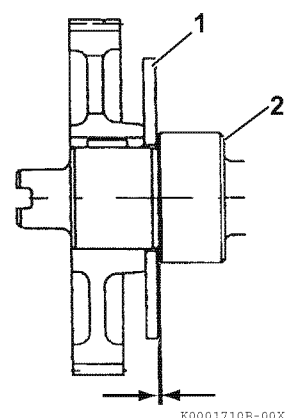

Figure 6-45
- Method B:** Use a feeler gauge to measure the clearance between the thrust plate (**Figure 6-45, (1)**) and front camshaft bearing (**Figure 6-45, (2)**). Record the measurement. See *Thrust Bearing* on page 6-7 for the service limit.